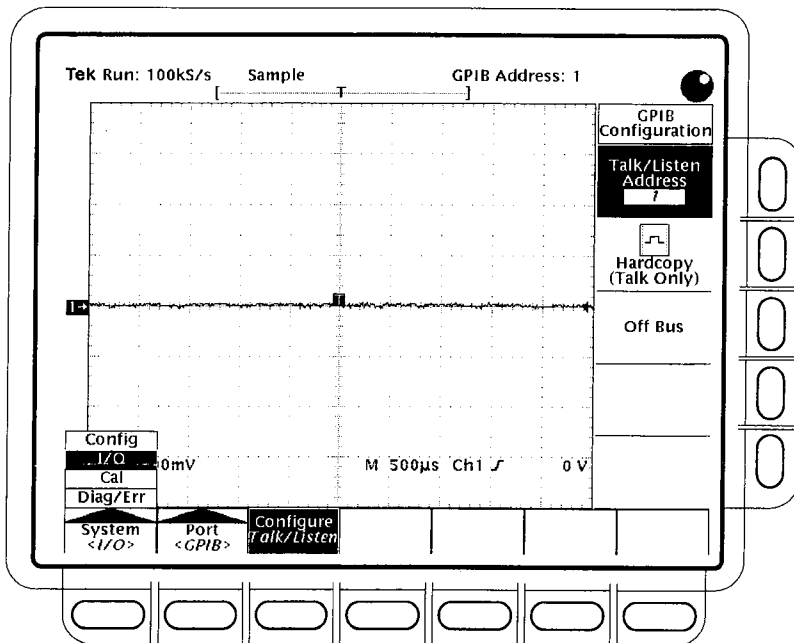

Figure 2: Selecting the I/O System in the Main Menu
2. Press the **System** button in the main menu until it highlights the **I/O** selection in the pop-up menu. See Figure 2.